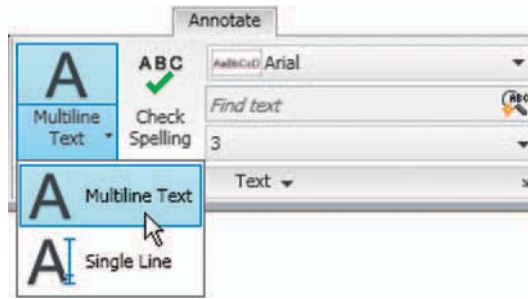

Fig. 6.22 Selecting **Multiline Text...** from the **Home/Annotation** panel
2. Either *left-click* on the **Multiline Text** tool icon in the **Home/Annotation** panel (Fig. 6.22), or *click* on **Multiline Text...** in the **Draw** toolbar, or *enter* **t** at the command line: